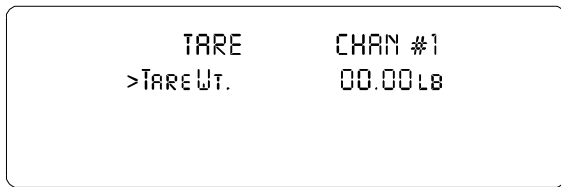

FIG. 3-8 TARE MENU
- Step 6. To change the Tare Weight, press the Enter button. The Tare menu appears. (See Fig. 3-8)